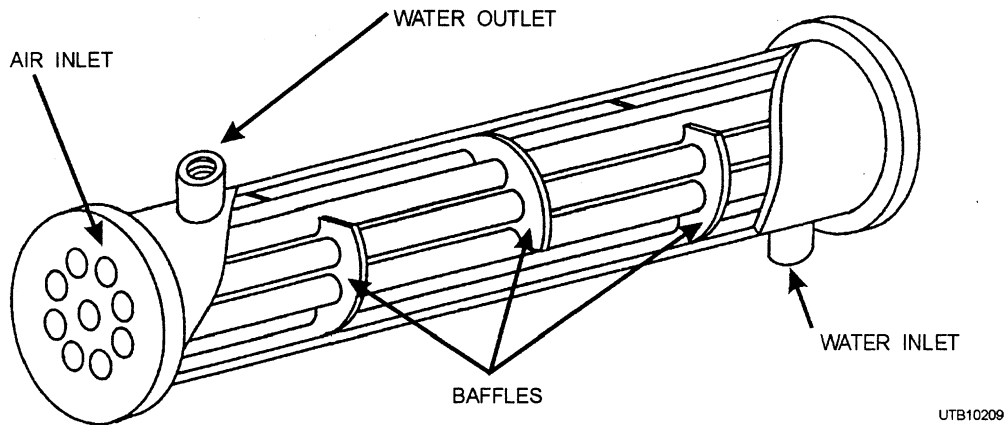

Figure 6-44.—Water-cooled heat exchanger.
**INTERCOOLERS AND AFTERCOOLERS.**—Intercoolers and aftercoolers are used to reduce the heat buildup due to the compression of air. The two mediums used are water and air. Normally air is used on smaller compressors. The air-cooled heat exchanger is simply a set of fins and/or tubular radiator. No liquid of any sort is used for cooling. The water-cooled heat exchanger operates as a shell and tube design (fig. 6-44). The tubes commonly consist of